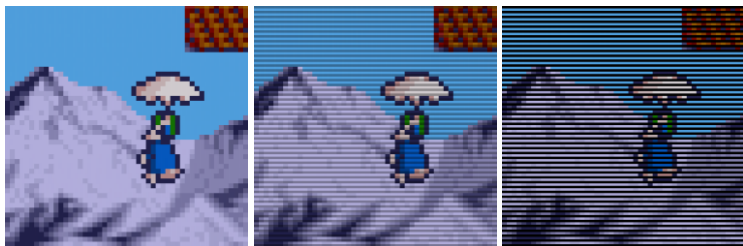

Figure 7: Emulate a CRT look with the **Scanline** (10) parameter
The parameter **Scanlines** (10) sets the intensity of so called scanlines as shown in Figure 7. Scanlines emulate the appearance of a progressive image when displayed on a CRT (cathode ray tube). Note, scanlines are not shown in interlace modes.